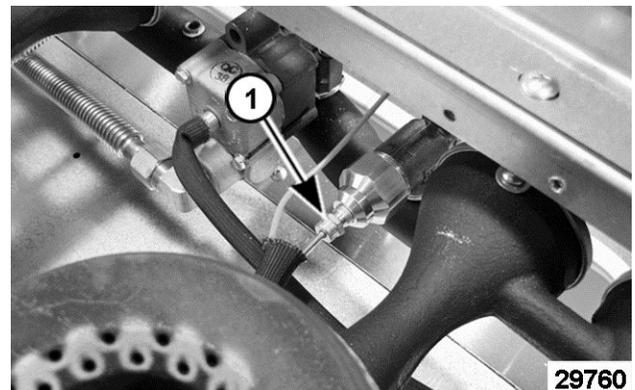

Fig. 101
7. Disconnect thermocouple (1, Fig. 101) from safety valve.